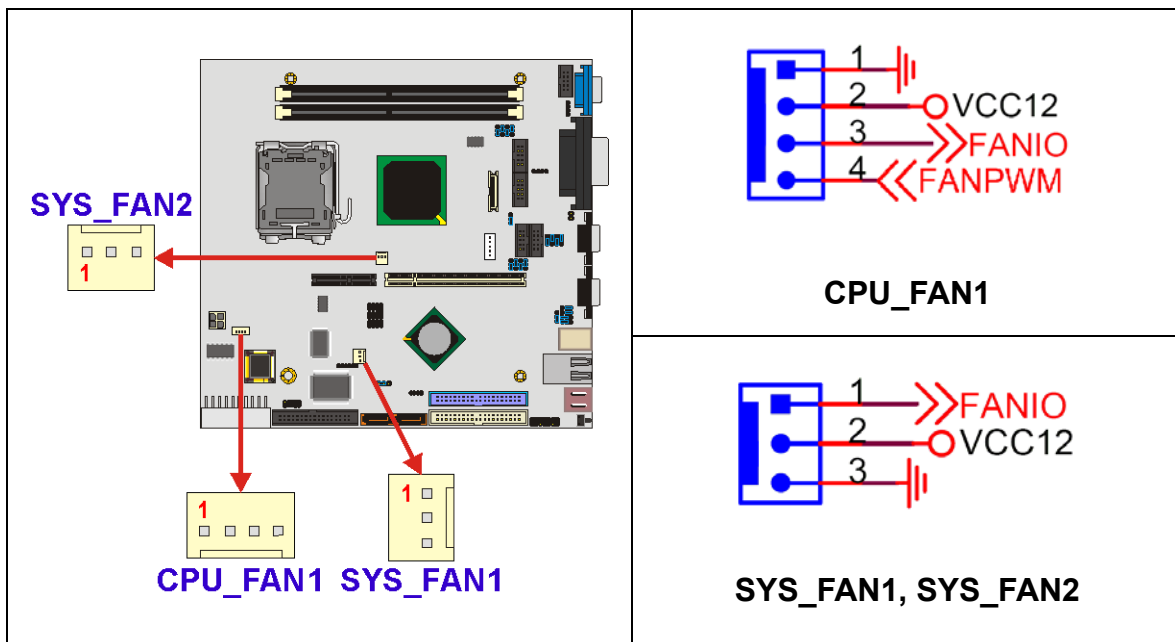

Figure 3-8: Cooling Fan Connectors Locations
**CN Location:** See Figure 3-8